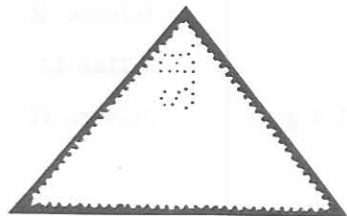

Figure 1
1. Non-rectangular Perfin. Thanks to Jan Prins, we have another example of a non-rectangular Perfin. Figure 1 shows an isosceles triangle, which is Netherlands, Scott #204. At first glance, this stamp appears to be a right angle triangle, but measurement shows the top angle is 78 degrees, with the other two being 51 degrees.